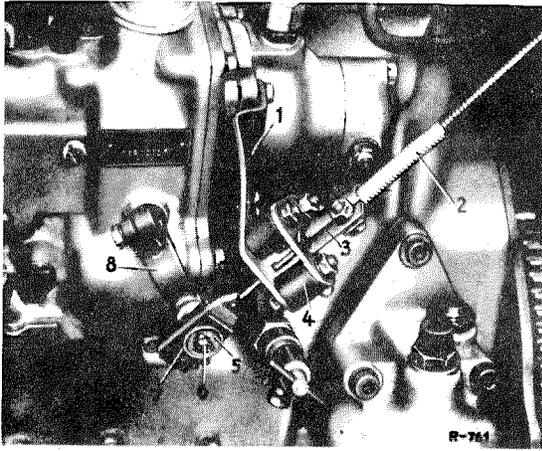

Fig. 30-11/1
**Note:** Do not install a spring washer since such a washer would increase the tension so much that the cable might jam on the lever. The rubber strap (7) of the end piece should in fact have some lateral play between the lever (8) and the dished washer (5) in order to prevent jamming in any case (Fig. 30-11/1).